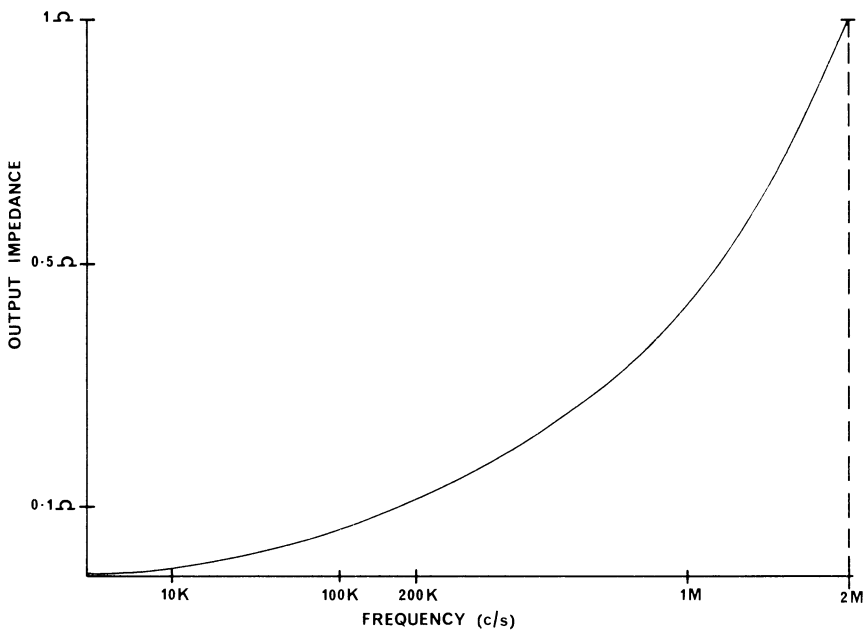

Fig.5. OUTPUT IMPEDANCE.
- (iii) Output Impedance - For alternating load superimposed on a steady load, the output impedance of the supply increases with frequency due to fall off in gain of the control amplifier until it is determined only by the output capacitor. A typical output impedance/frequency curve is shown in Figure 5.